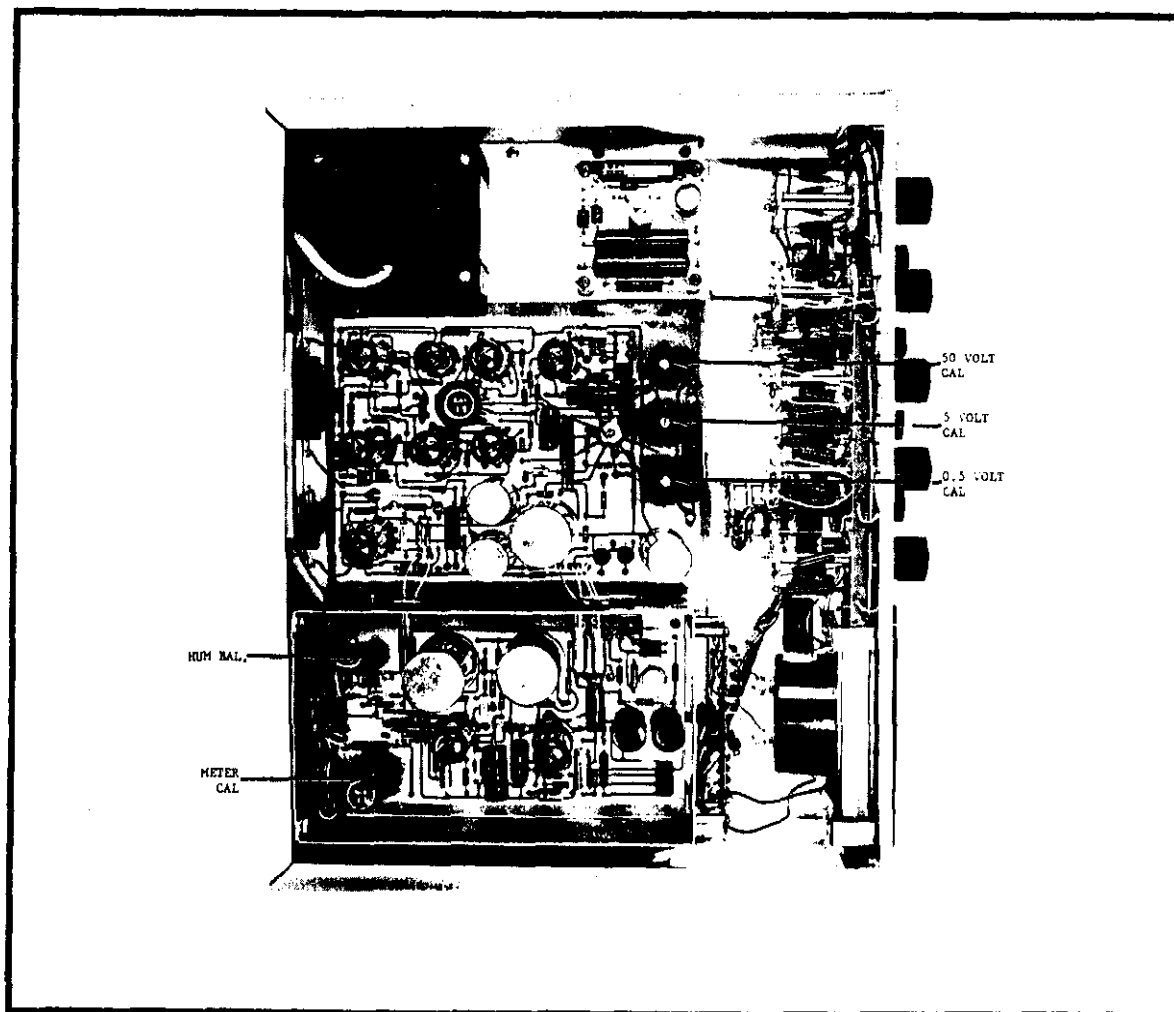

FIGURE 15. Model 660 Internal Controls. (Top View.)
a. The reference voltage supply has a 500-volt output which can be attenuated to 50, 5 or 0.5 volts. This voltage is then divided by the Kelvin-Varley divider to provide the accurate buckout voltage. Each of the four voltage ranges is set by internally adjusting potentiometers R3035, R3041, R3044 and R3048 (Figure 15).
Adjust the Voltage Calibrator to apply 500 volts dc to the Model 660. Turn the Model 660 NULL Switch to 10 MV and adjust the 500 V CAL potentiometer R3035 (Figure 15) for null on the Model 660.
Adjust the Voltage Calibrator to apply 50 volts dc to the Model 660. Adjust the 50 V CAL potentiometer R3041 (Figure 15) for an off-null reading on the Model 660 equal to the correction factor at 50 volts.
Adjust the Voltage Calibrator to apply 5 volts dc to the Model 660. Adjust the 5 V CAL potentiometer R3044 (Figure 15) for an off-null reading on the Model 660 equal to the correction factor at 5 volts.
Adjust the Voltage Calibrator to apply 0.5 volt dc to the Model 660. Adjust the 0.5 V CAL potentiometer R3047 (Figure 15) for an off-null reading on the Model 660 equal to the correction factor at 0.5 volt.